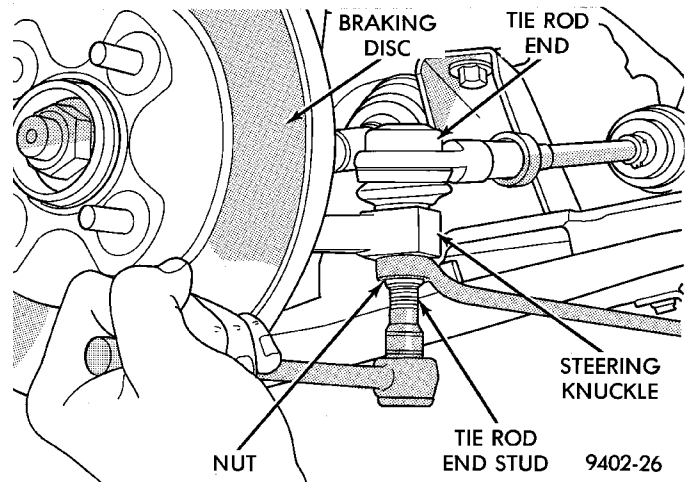
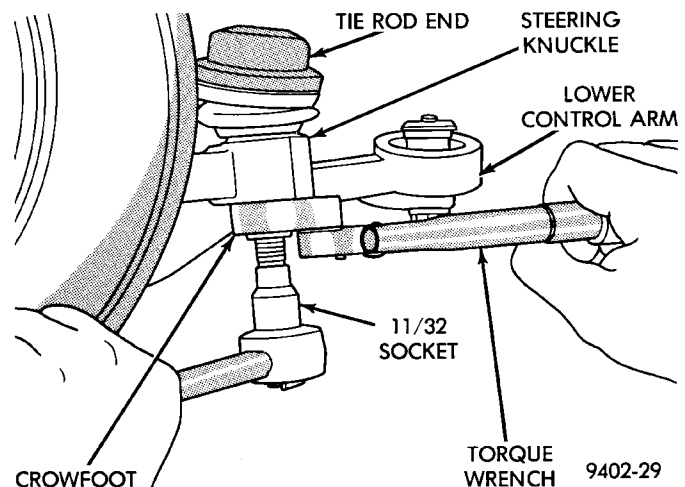

Fig. 6 Removing Tie Rod End Attaching Nut
Fig. 17 Torquing Tie Rod End Attaching Nut
(5) Remove nuts attaching both outer tie rod ends to the steering knuckles (Fig. 6). **Nuts are to be removed from tie rod ends using the following procedure, hold tie rod end stud with an 11/32 socket, while loosening and removing nut with wrench.**
(7) Install tie rod end into the steering knuckle. Start tie rod end to steering knuckle attaching nut onto stud of tie rod end. While holding stud of tie rod end stationary, tighten tie rod end to steering knuckle attaching nut (Fig. 6). Then using a crowfoot and 11/32 socket (Fig. 17), torque tie rod end attaching nut to 55 N·m (40 ft. lbs.).